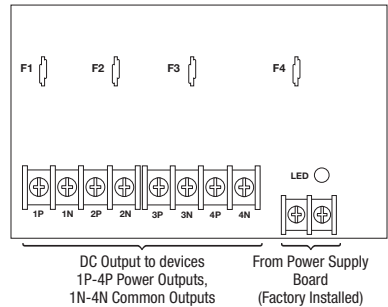

Fig. 3a - PD8UL Power Distribution Board
- b. For other Power Distribution Models: connect devices to be powered to the terminal pairs 1 to 4 marked [1P & 1N] through [4P & 4N] (*Fig. 2a & 2b, pg. 5*) or 1 to 8 marked [1P & 1N] through [8P & 8N] (*Fig. 3a & 3b, pg. 5*), carefully observing correct polarity.
6. For Access Control applications batteries are optional. When batteries are not used, a loss of AC will result in the loss of output voltage. When the use of stand-by batteries is desired, they must be lead acid or gel type. Connect one (1) 12VDC battery to the terminals marked [+ BAT -] for 12VDC operation. Use two (2) 12VDC batteries wired in series for 24VDC operation.